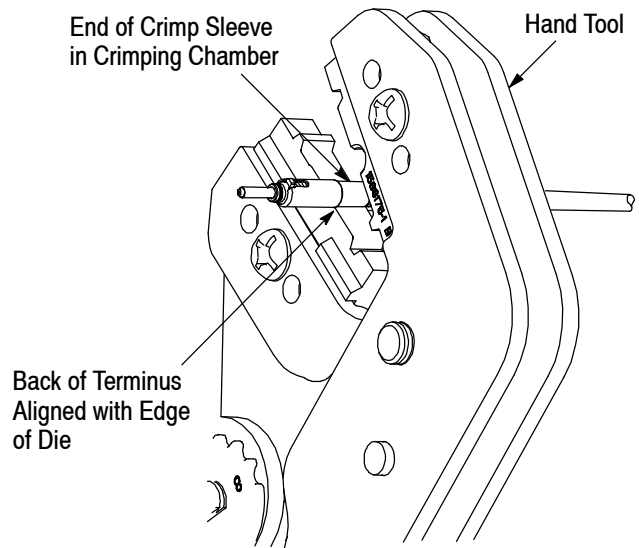

Figure 5
5. Using the ferrule resin injector, apply a drop of epoxy to the back part of the terminus. See Figure 5, Detail A.
6. Place the end of the crimp sleeve into the die assembly of the hand tool. Align the back of the terminus with the edge of the die. See Figure 5, Detail B.